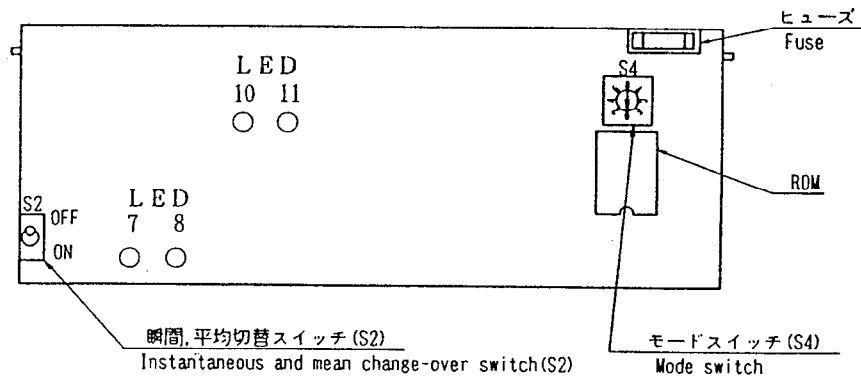

図2・2.Fig
3) Instantaneous mean change-over switch (Refer to Fig.2 of S₂.)
4) Mode switch (Refer to Fig.2 of S₄.)